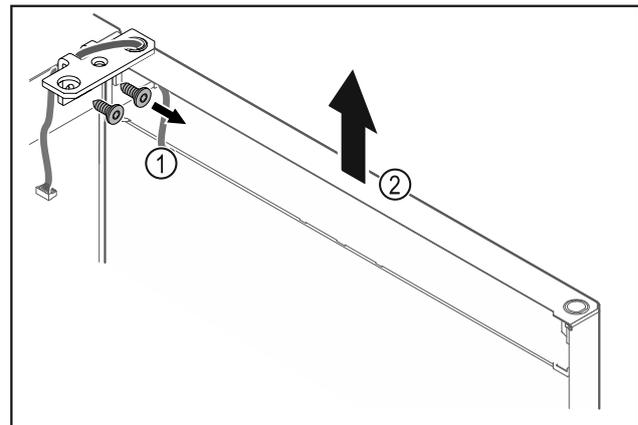

Fig. 17
- ▶ Unscrew the hinge Fig. 17 (1).
- ▶ Lift the door with the hinge straight up by Fig. 17 (2) roughly 200 mm and take it off.